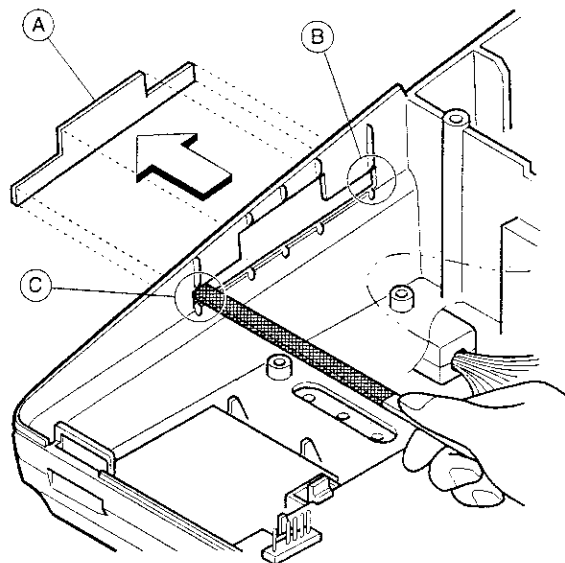

Fig. 1
- 2) Break open the knockout (A) of the lower cabinet with a tool and file it. Especially sections (B) and (C) must be filed deliberately because the bracket is in contact with them. (Fig. 1)